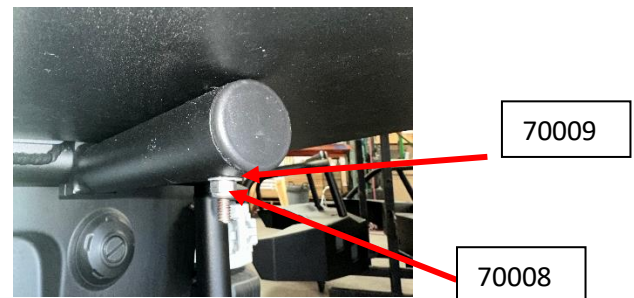

Figure 9: support post mounting
23. Mark and drill 5/16" holes through the back of your box into the cross pipe in the middle of the base unit, and through the bottom of the box into the support posts. Secure box to rail using the hardware shown in figures 9 and 10 below.